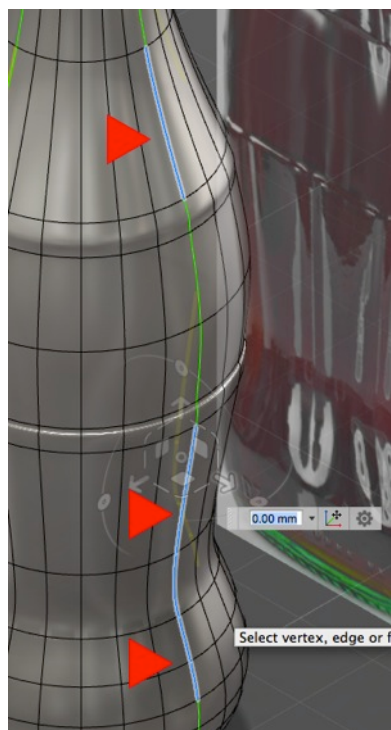

Fig. B07
- b. Select mid top and mid bottom edges sitting at the right end of the bottle (Fig. B07).